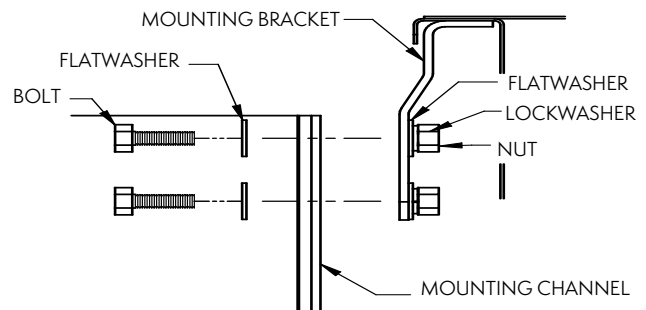

Figure 17
2. Use 3/8" (10mm) flat washers, lock washers and nuts to secure the mounting channel to the bracket, as shown in **Figure 17**.